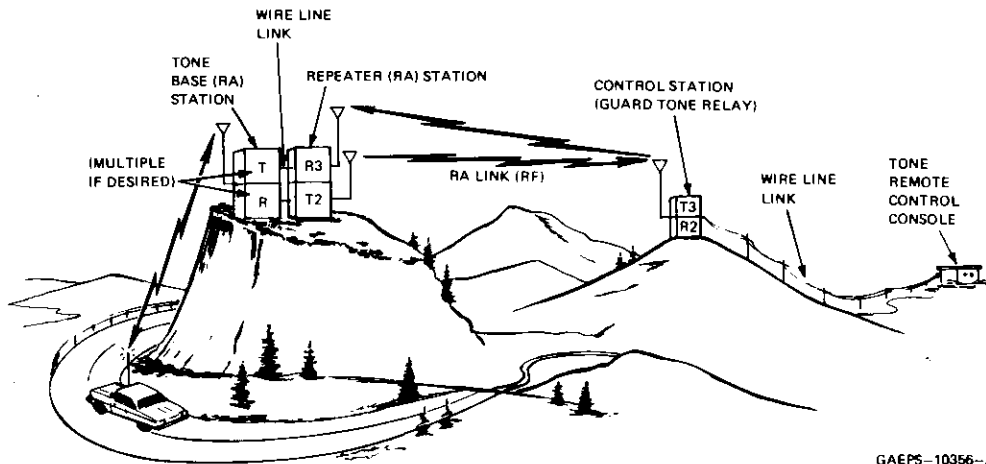

Figure 2. Typical Guard Tone Relay System
1.4.3 In the guard tone relay system (see to Figure 2), the presence of an rf signal *alone* at the repeater (RA) station does NOT cause the companion station to transmit. Instead, the companion station is controlled via tone signals, just as if it were connected directly to a remote control console by wire lines. This permits multiple frequency operation, PL disable (PL or DPL coded squelch models), unique function commands, etc., of the companion base (RA) station.